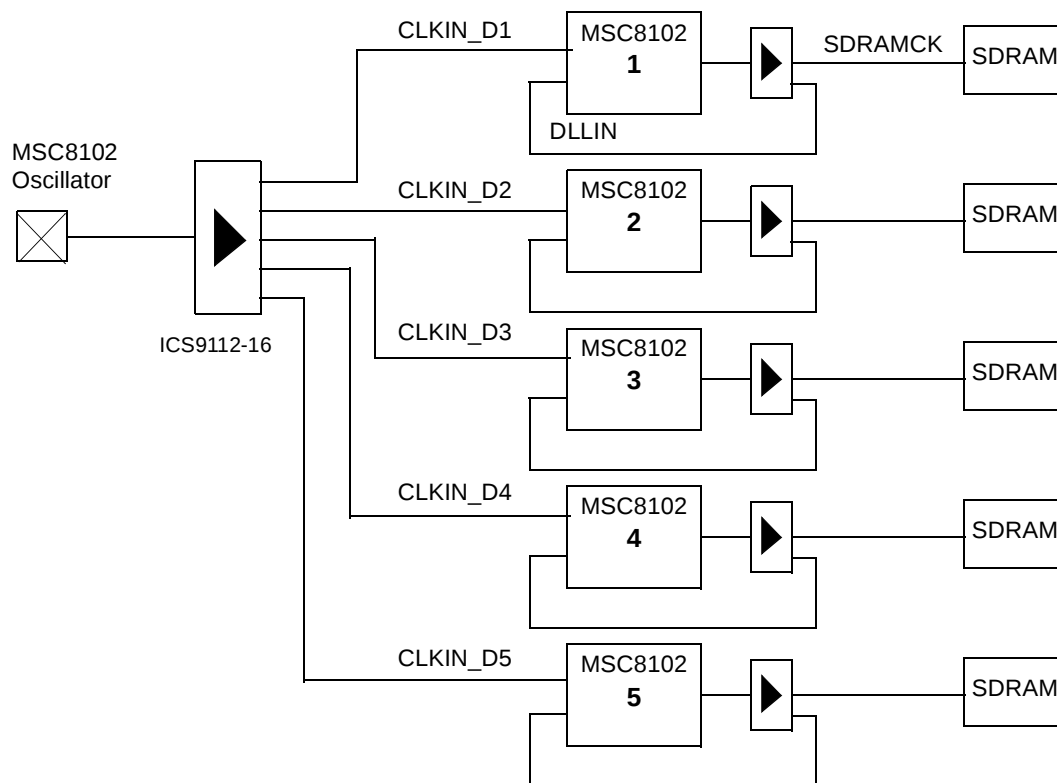

Figure 14. MSC8102 and SDRAM Clocking
- MSC8102 and associated SDRAM clocking (see **Figure 14**).